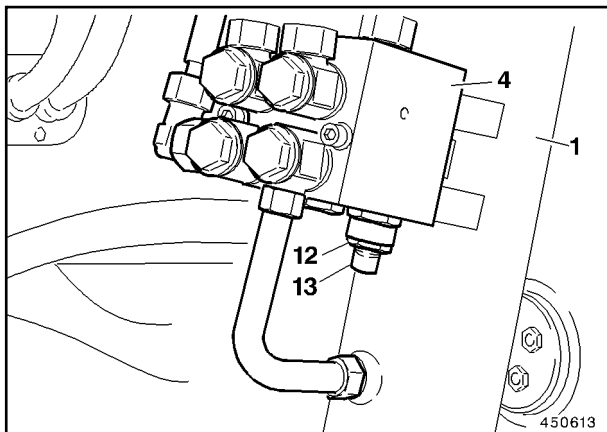

Fig. 3
To actuate the valve, loosen lock-nut (12, Fig. 3) and lower the blade by turning out setscrew (13) with the Allan key.